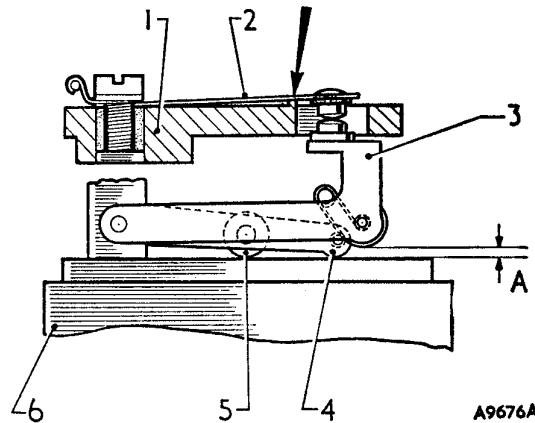

Fig. Da.5
- (27) Check the gap between the points indirectly by carefully holding the contact blade against the rib on the pedestal without pressing against the tip. Then check if a .030 in. (.8 mm.) feeler will pass between the fibre rollers and the face of the coil housing (A) (Fig. Da.5). If necessary, the tip of the blade can be set to correct the gap.